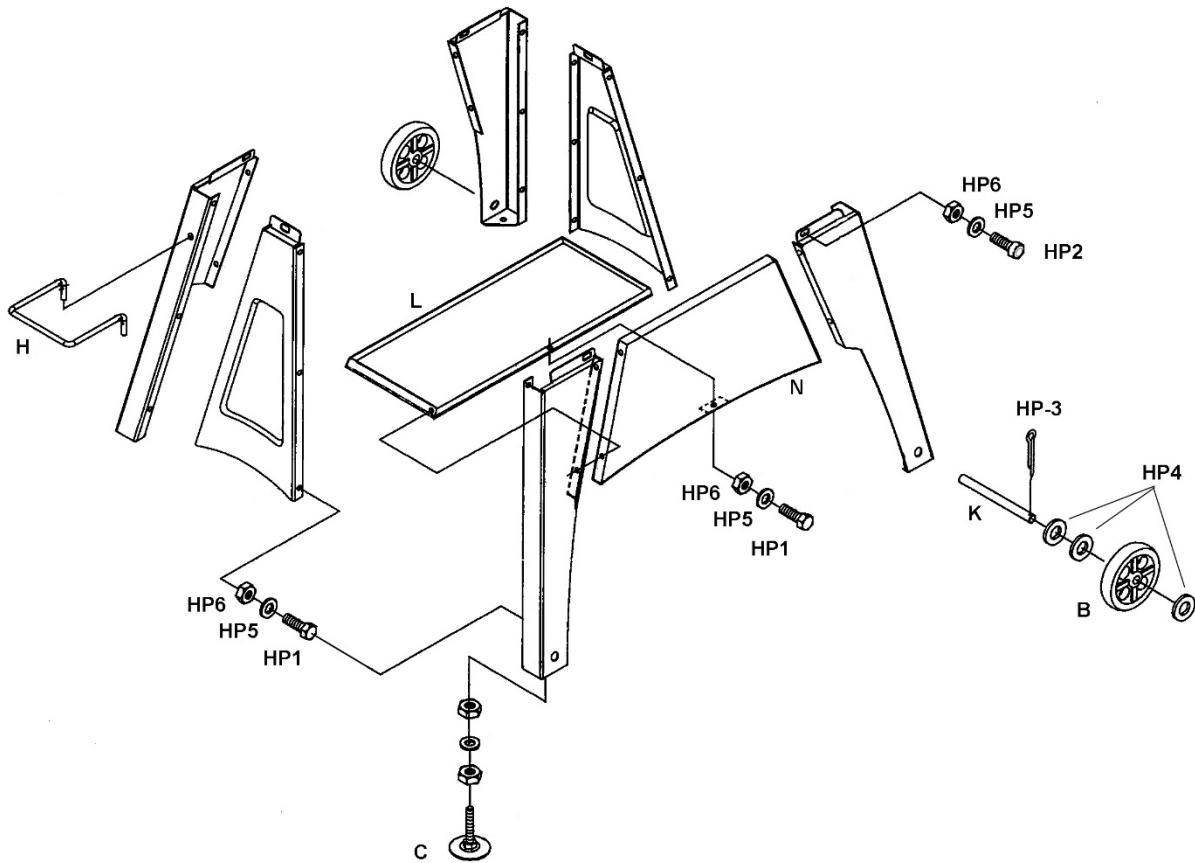

Figure 3
Refer to Figure 3.
1. Assemble legs, cross braces, front panel and shelf, as shown in Figure 3.
2. Install handle (H) into end of assembled stand.
4. Install adjustable feet (C) at opposite end of stand and adjust until stand is level.
1. With help from another person, position saw atop stand, and secure with socket head cap screws and washers (HP2/5/6, Figure 3).